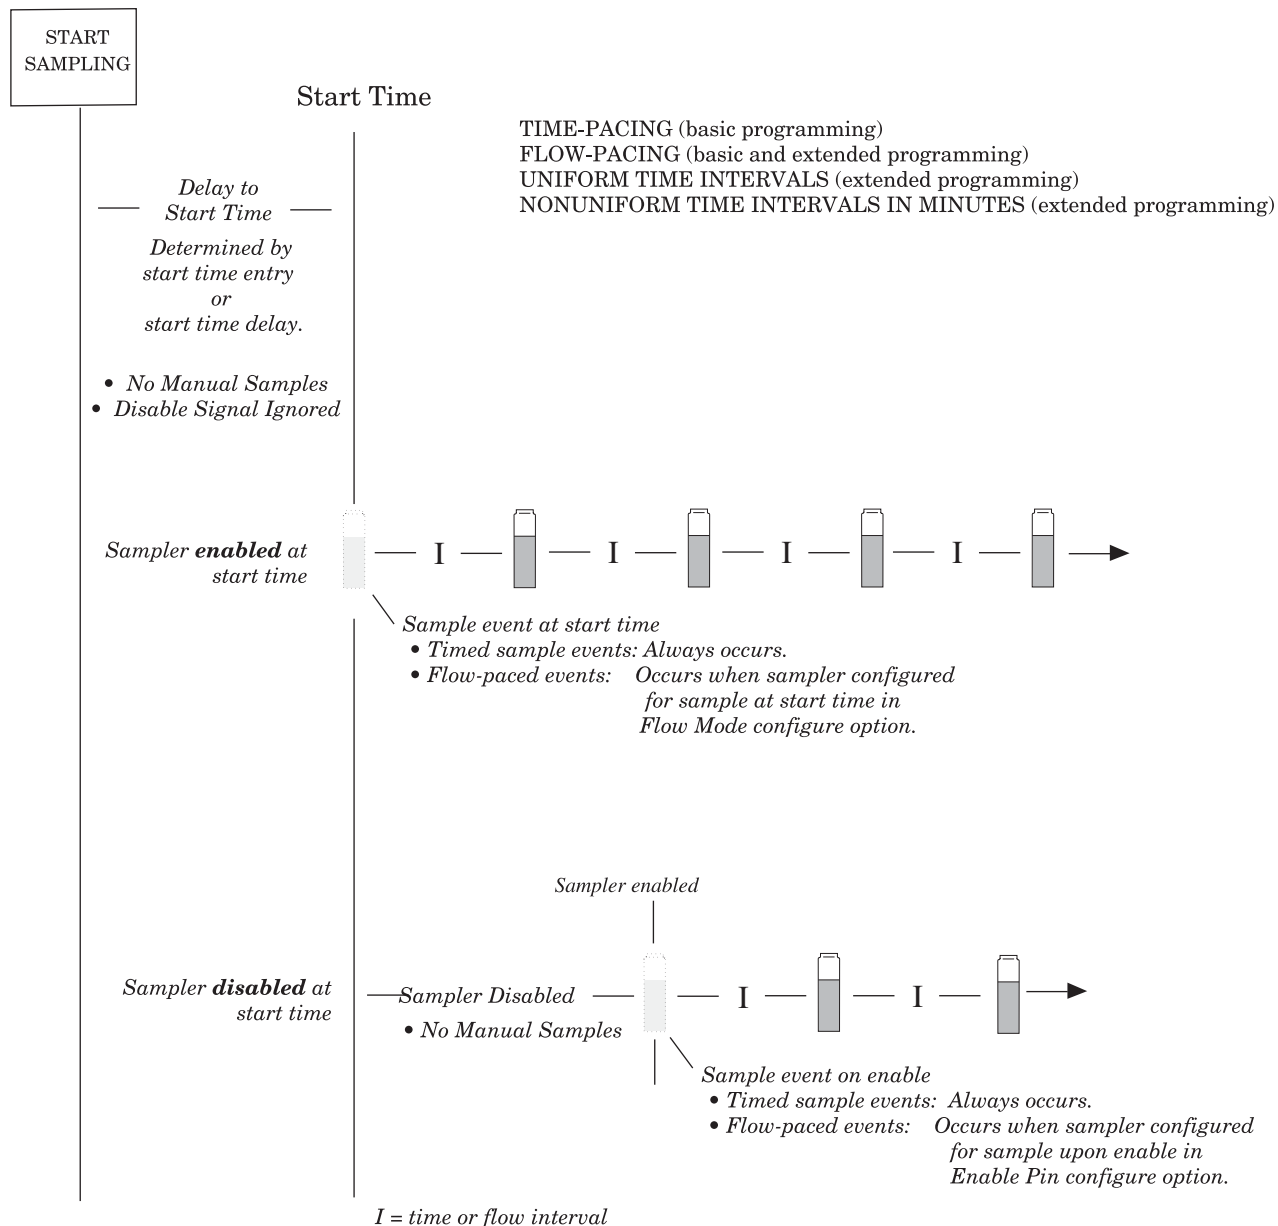

Figure 3-14 Start Time Diagram
the start time for flow-paced routines when configured for sample at start time in the Flow Mode configure option. Refer to Figure 3-14. The diagram shows the sampler's response when enabled or disabled at the start time for most basic and extended mode routines.
**Manual sample key and programmed start times** – The sampler will disregard the manual sample key during the delay-to-start time and during the disable period. The periods where the sampler disregards disable signals (Delay to Start) and the manual sample key (when disabled) appear in Figures 3-14 and 3-15.